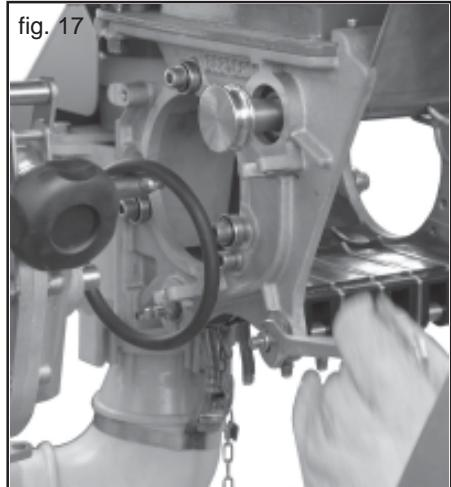

fig. 17
- 1) In order to disassemble the feeler unit, loosen the four nuts of the axles (front and back) (Fig. 17), using a 13 mm spanner....